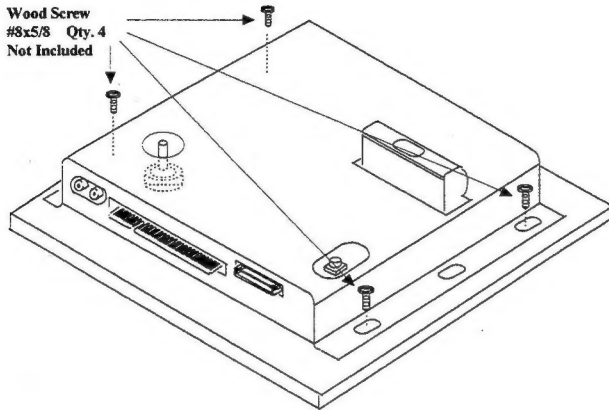

Figure 8: PC Board Mounting
25. Install the caged PCB to the control panel shelf with supplied wood screws, as shown in figure 8.